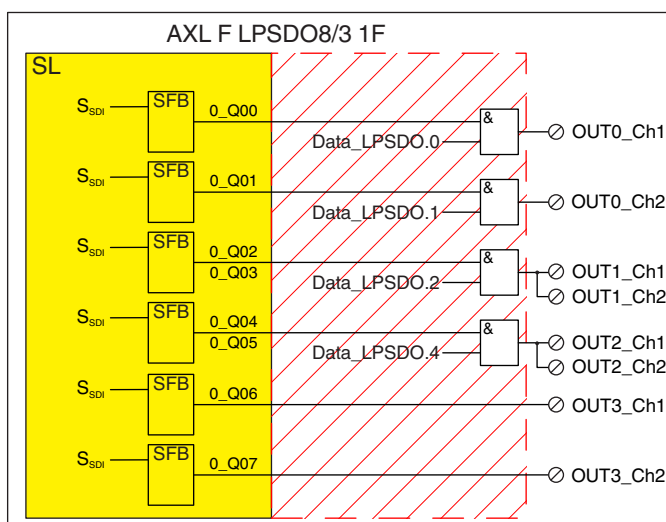

Figure A-11 Enable principle (example)
**Explanations for Figure A-11:**
Table A-11 Parameterization of output channels for the example in Figure A-11